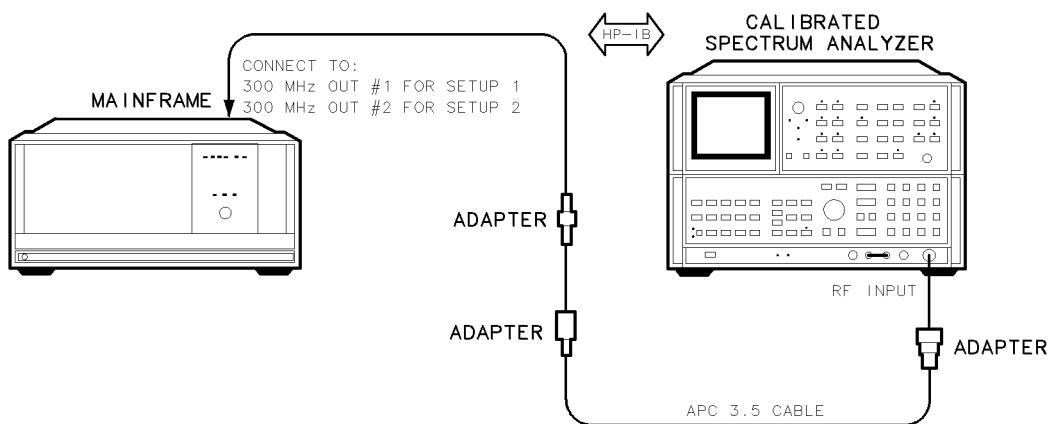

Figure 7-2. 300 MHz Reference Output Power and Harmonics Test Setup
1. Connect the HP 8566B spectrum analyzer’s RF INPUT to the DUT’s rear panel 300 MHz OUT #1 jack using the three adapters, as shown in Figure 7-2. The calibrated spectrum analyzer measures the output power of the fundamental and its first 10 harmonics, and compares this measurement to the test limits.
2. When the test on the 300 MHz OUT #1 jack is finished, connect the spectrum analyzer to the DUT’s rear panel 300 MHz OUT #2 jack using the three adapters, as shown in Figure 7-2.